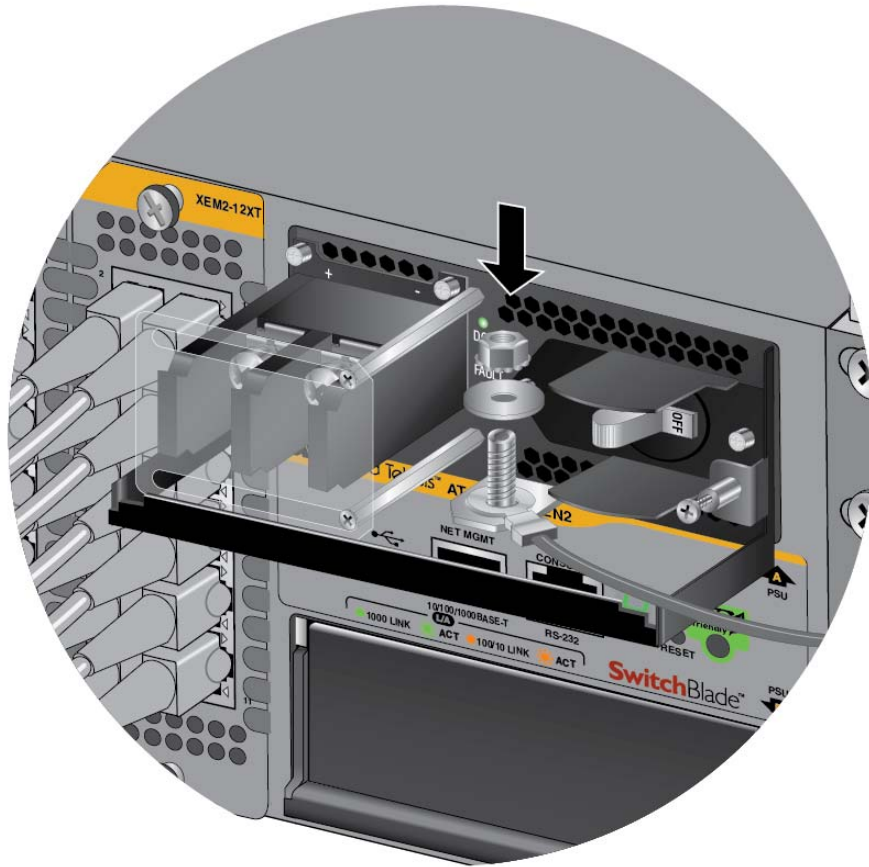

Figure 57. Securing the Grounding Wire
6. Secure the grounding wire with the nut and washer removed in step 4, with an 8 mm wrench. Refer to Figure 57 on page 90.